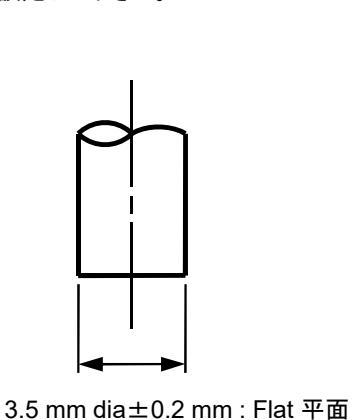

Fig. 1
- (2) We recommend the shape indicated in Fig.1 regarding the operation section. Concerning the angle, please set it within 4degrees as indicated in Fig.2.